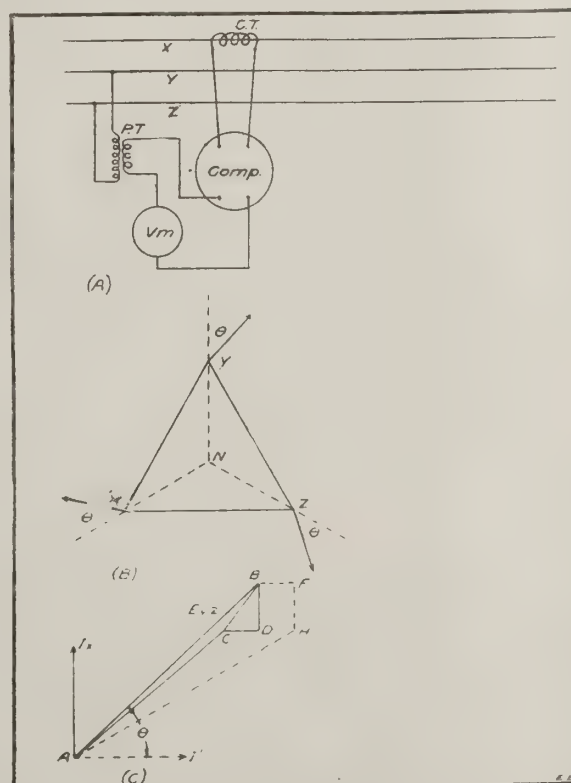
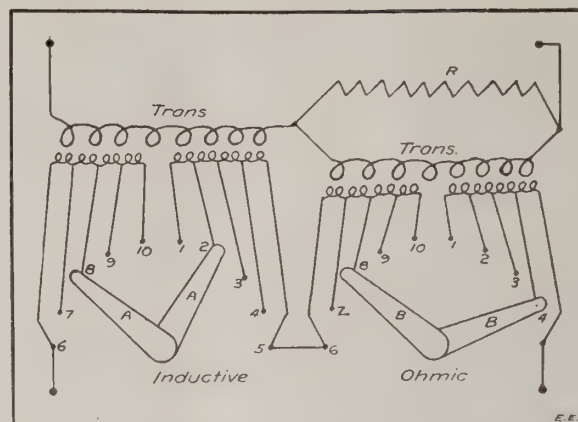

FIG. 4. A THIRD ARRANGEMENT OF COMPENSATOR ON A THREE-PHASE LINE.
FIG. 5. INTERNAL CONNECTIONS OF A COMPENSATOR.
The scheme of three-phase compensation illustrated in Fig. 4 cannot be used with the line drop compensator described above but may be carried out with the type illustrated in Fig. 5. This scheme was suggested by the writer and upon test it has been found to work out satisfactorily. The current transformer is placed in the leg which is not included in the phase off which the potential is taken. The connections of the reactance side of the compensator are reversed. The reactance side is set to give the proper value of voltage to compensate for the resistance drop in the line and the resistance side is set to compensate for the reactance of the line.
In the diagram showing the vector relations the current in (X) is seen to be 90 degrees ahead of (CD) which lags behind (YZ) by angle ( $\phi$ ). The voltage in the resistance side of the compensator will be in phase with the current while the reactance side, before reversing its connections, will give a voltage 90 degrees ahead of the current. These voltages may be represented by vectors (HF) and (FB). Reversing the connections of the reactance coil of the compensator shown in Fig. 1, would not alter these vectors' relations as it would reverse the direction of voltage drop only with respect to the coil itself and not with respect to the rest of the circuit. In the compensator of Fig. 5 there
The compensator whose internal connections are shown in Fig. 5 differs in principle considerably from the more general type described above and merits some special consideration. It is of Westinghouse design and one of its transformers is shunted across the non-inductance resistance ( $R$ ). The voltage across the primary and hence the voltages over the secondary taps also are in phase with the drop over the non-inductive resistance. The secondary voltages being in phase with the current, this part of the compensator may be used to compensate for ( $RI$ ) drop in a line. The other transformer is in series in the circuit and there is no load on its secondary as it is used in the compensator. It gives voltage which is 90 degrees ahead of the current and is used to compensate for reactance. The sections included between adjacent taps numbered from one to five give five times the voltage between taps numbered from six to ten. Thus it is possible to obtain 25 different settings on either the ohmic or inductive side by varying the position of the contactors (AA) and (BB) which serve to close the circuit leaving in as many sections as desired. This compensator then has many more possible settings and is capable of a closer adjustment than the other type as ordinarily constructed. As the voltages obtained from the little transformers are proportional to the current taken by the compensator, the ohmic and inductive sides give the same effect as is obtained from the other type by voltage drop over resistance and reactance and curves for compensator settings may be made to a scale of equivalent ohms.